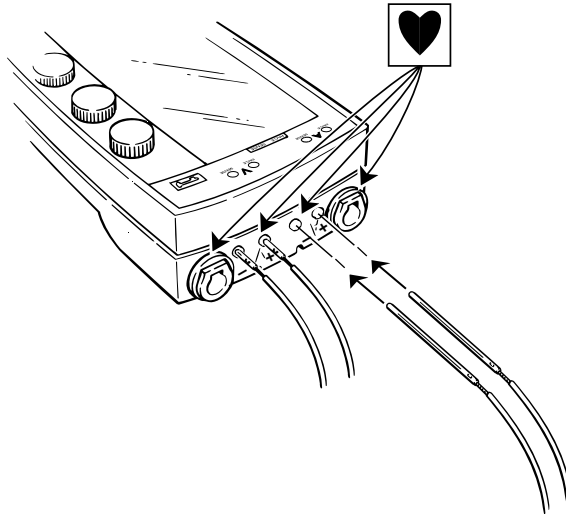

Figure 4-7. Connecting connector pins directly to the Model 5388.
2. Push the connector pins into the holes on the connector block as shown (see Figure 4-7).